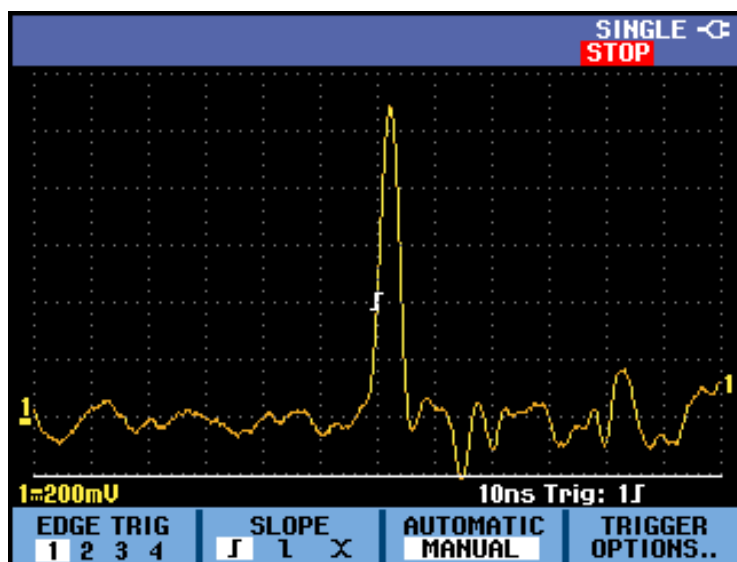

Figure 33: Making a single shot measurement
4. Select **Single Shot**. The word **SINGLE** will appear in the top right portion of the display screen indicating that the instrument is waiting for a trigger. As soon as it receives a trigger, the waveform is displayed and the instrument is set to stop. This is indicated by the word **STOP** in the top right portion of the screen. (See Figure 33.)